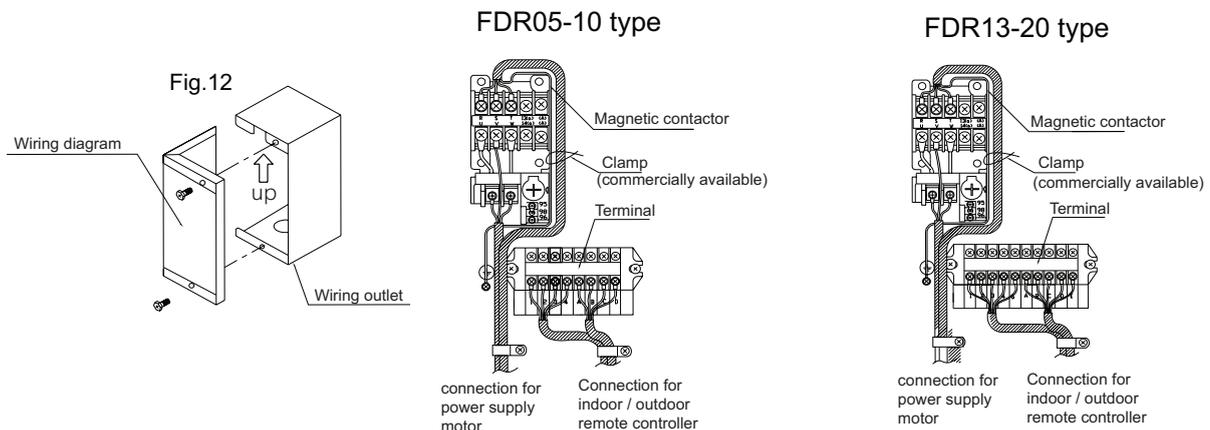

Fig.13
- For connection between the power supply and the motor, refer Fig.13 on page 8. Connect the wiring to the corresponding phase on the magnetic contactor.
- For connection between the indoor/outdoor remote controller, refer to Fig.13 on page 8. Use the corresponding numbers on the outdoor unit to connect the outdoor wires to the indoor terminal. Refer to the manual attached to the remote controller (optional) and the wiring diagram for the indoor unit